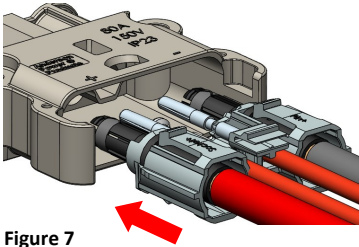

Figure 7
8. Install the fully assembled contact holder into the socket housing (Figure 7):